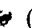

**Figure 8**
4. Squeeze control bar against handle (Fig. 8).
5. Pull starter handle (Fig. 8) lightly until resistance is felt, then pull sharply. Let rope return to handle slowly.
**Note:** If engine fails to start after three (3) pulls, repeat steps 2–4.
2. Pull starter handle (Fig. 8) lightly until resistance is felt, then pull sharply. Let rope return to handle slowly.